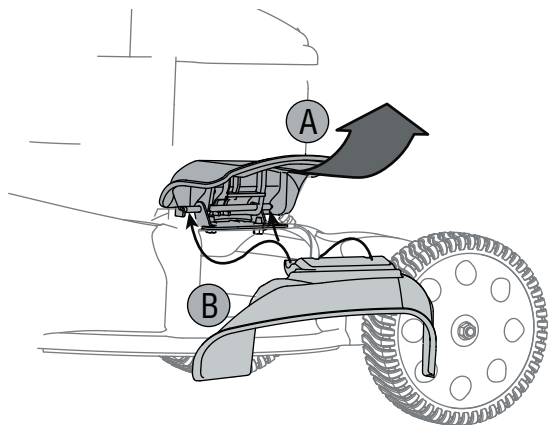

Figure 8 - Optional Feature
- On the side of the mower deck, lift the hinged mulching plug. See Figure 8.